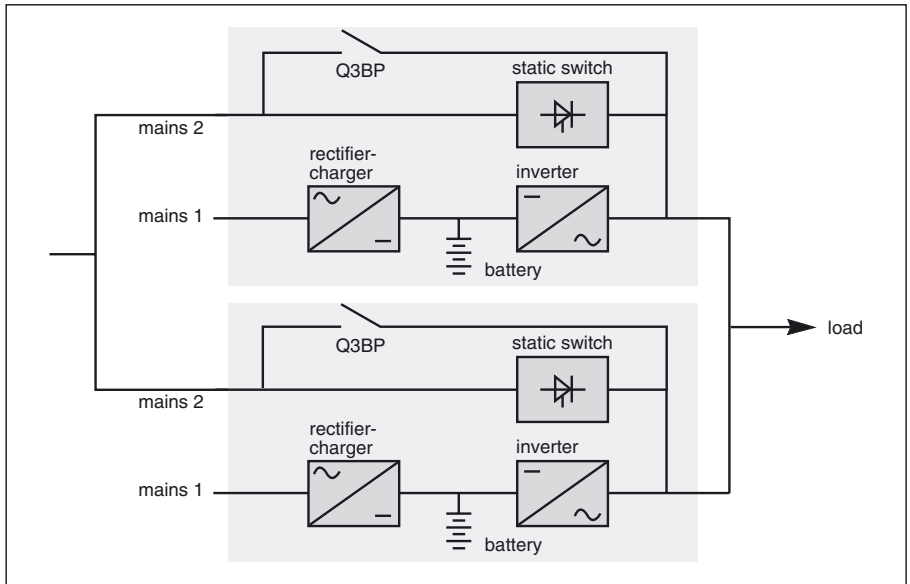

Fig. 2
- ▶ Multi-bypass modular UPSs: (figure 2)